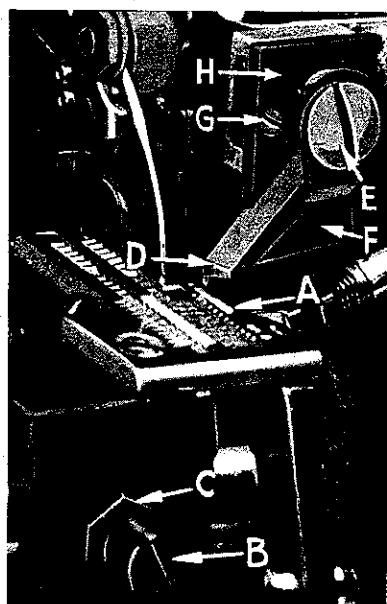

Fig. 13
Replace lower knife holder assembly. Lower knife (A, Fig. 13) should be set with cutting edge flush with throat plate surface. Adjustments are made with hexagonal head screw which holds lower knife. Lower knife is spring pressed against upper knife, so no lateral adjustment is necessary when width of trim is changed.
Replace upper knife assembly. Clamp upper knife (D, Fig. 13) in position, setting screw (E) to hold clamp (F) in its most clockwise position against upper knife. At bottom of its stroke, front cutting edge of upper knife should extend not less than  $\frac{1}{64}$  inch below cutting edge of lower knife.